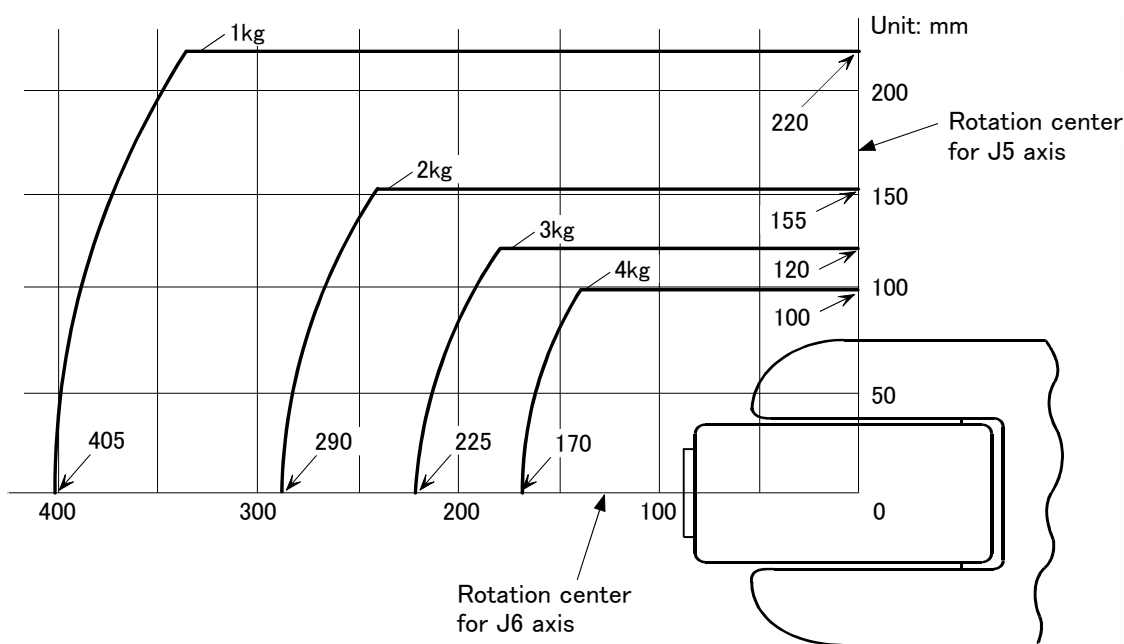
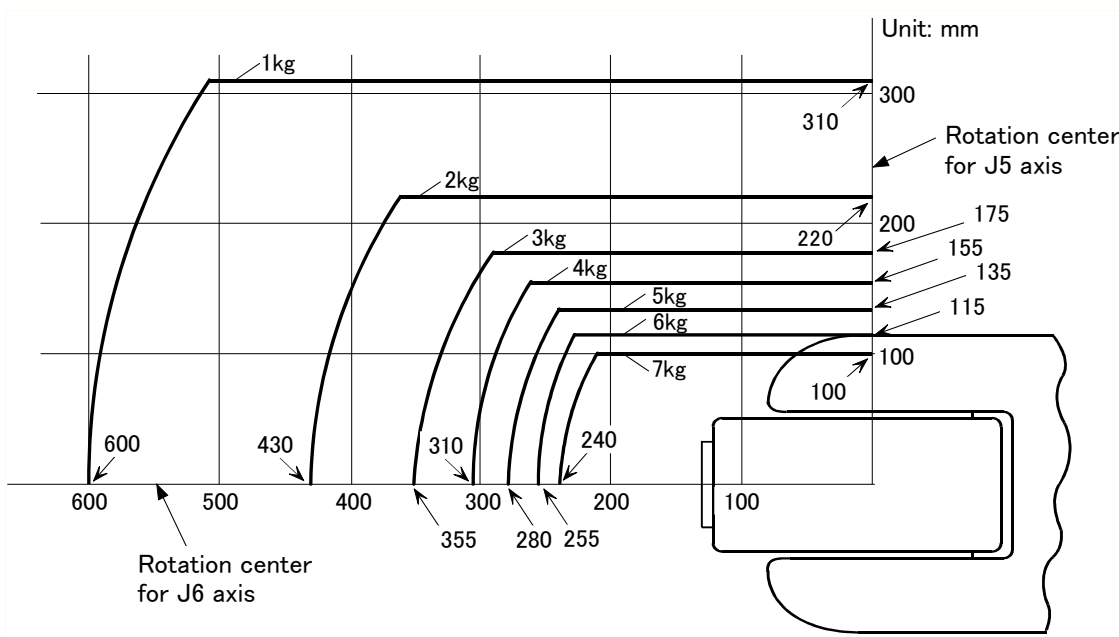
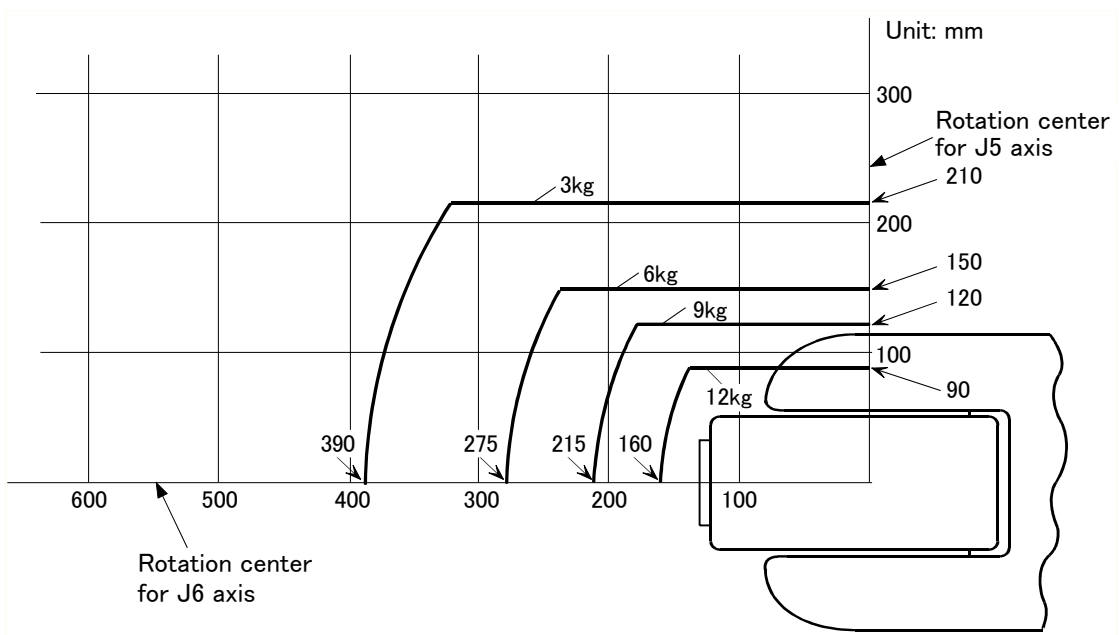
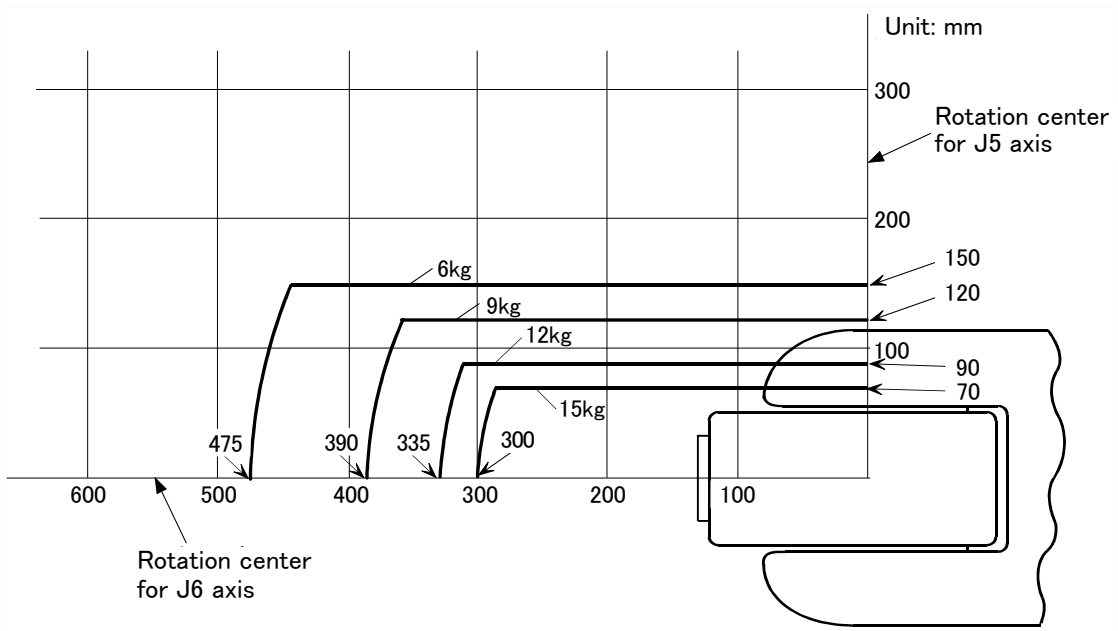

Fig.2-1 : Position of center of gravity for loads (for loads with comparatively small volume): RV-4F/4FL
Fig.2-2 : Position of center of gravity for loads (for loads with comparatively small volume): RV-7F/7FL
Fig.2-3 : Position of center of gravity for loads (for loads with comparatively small volume): RV-13F/13FL
Fig.2-4 : Position of center of gravity for loads (for loads with comparatively small volume): RV-20F
- (1) The tooling should have the value less or equal than the smaller of the tolerable inertia and the tolerable moment found in Page 9, "2.1.1 Basic specifications".
- (2) Fig. 2-1, Fig. 2-2, Fig. 2-3 and Fig. 2-4 shows the distribution dimensions for the center of gravity in the case where the volume of the load is relatively small. Use this figure as a reference when designing the tooling.
- (3) Even if the load is force, not the mass, design the tooling so that moment does not exceed the allowable moment. Refer to Page 9, "2.1 Standard specifications" for details of allowable moment value.